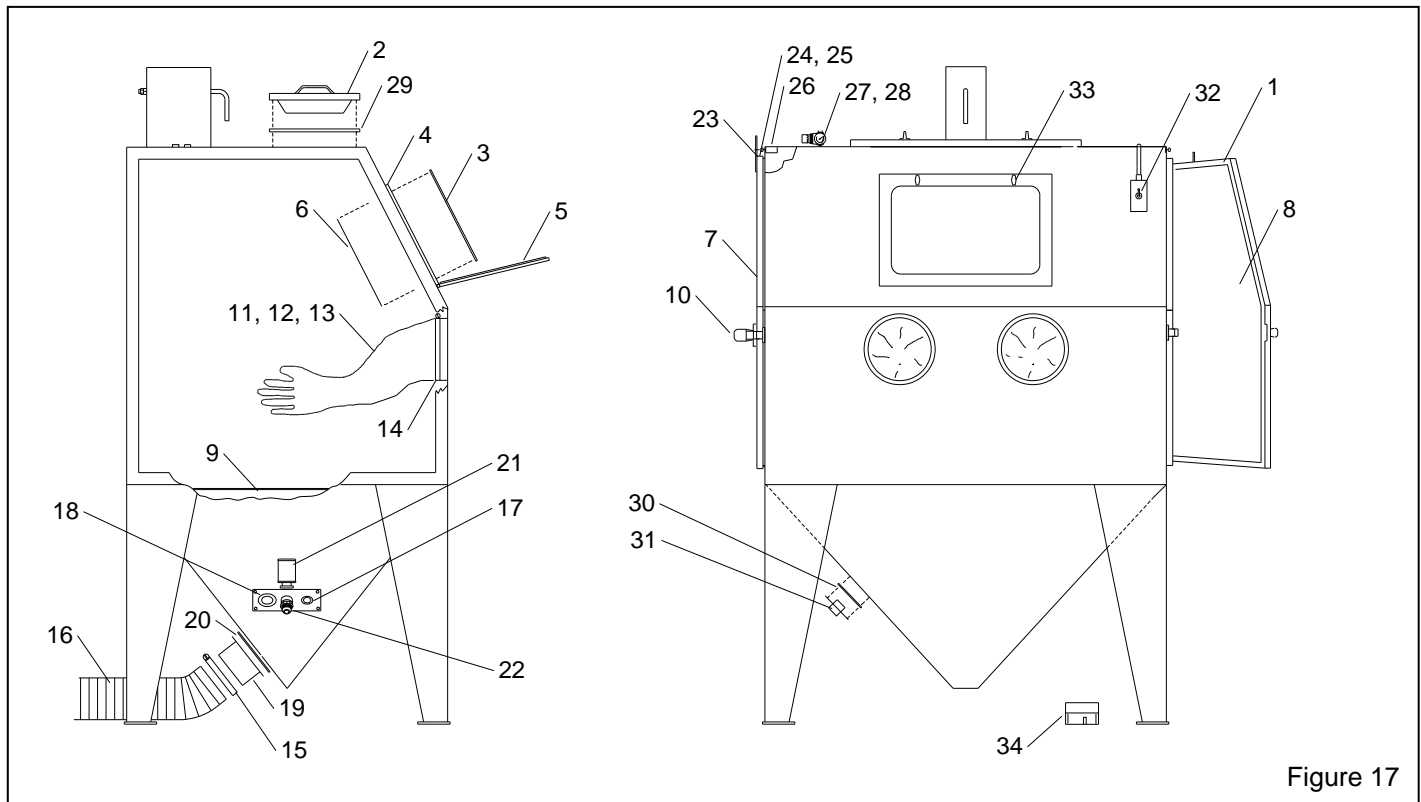

Figure 17
9.2 Cabinet Replacement Parts, Figure 17